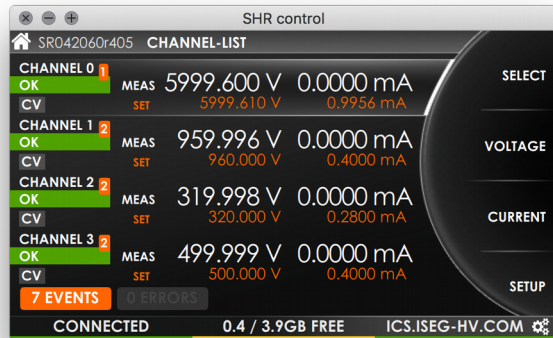

Figure 7 - SHRcontrol CHANNELLIST VIEW
- All Channels and device: Click on on the event / error badge on the bottom of the screen (here „7 EVENTS“, see Figure 7 - SHRcontrol CHANNELLIST VIEW)